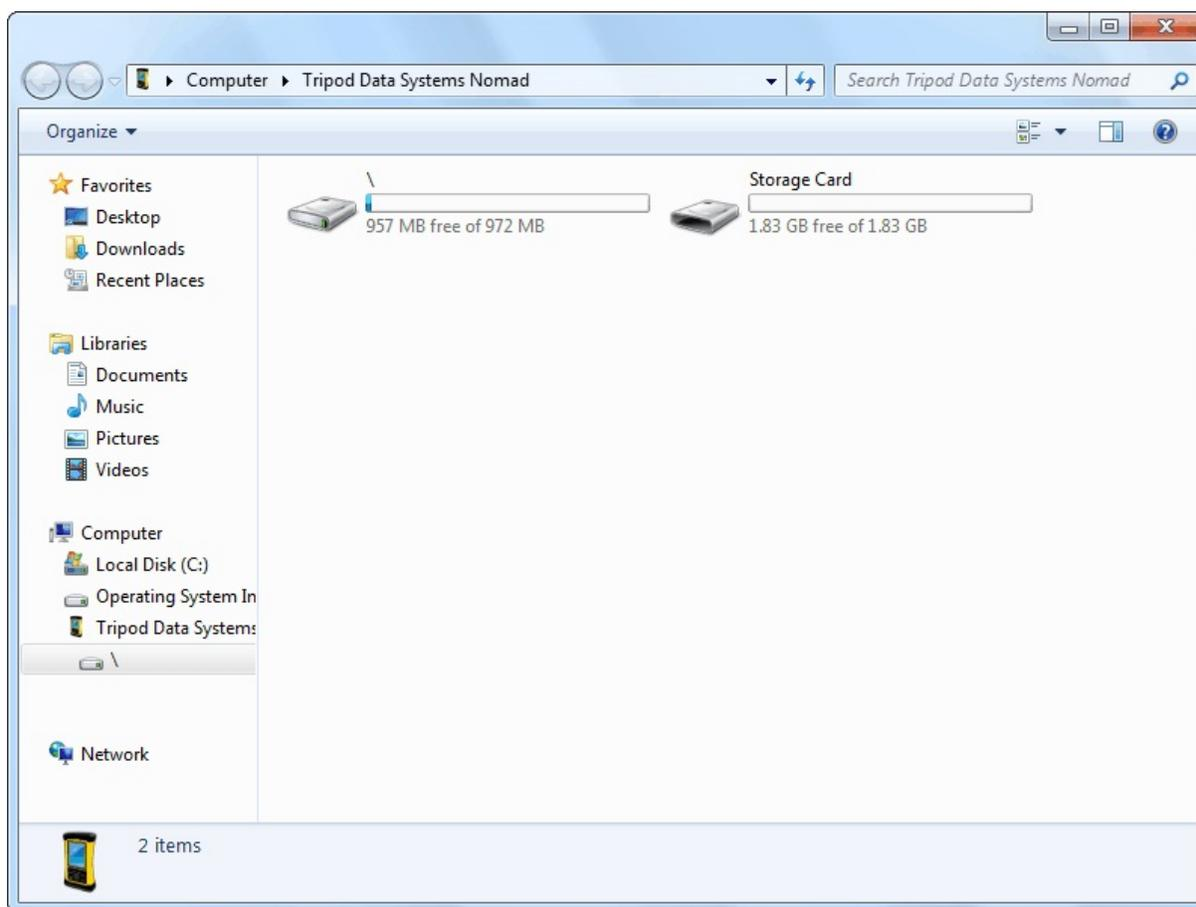

Figure 57. The Micro-UF6 Computer's Top-Level File Structure.
- 6) Windows Explorer will open and the Micro-UF6's computer will be listed as shown in Fig. 57. Stored search and identification files will be located in the SD card's **Data** folder or in the **My Documents** folder, depending on the location set on the Spectra dialog (see Section 3.3.1).